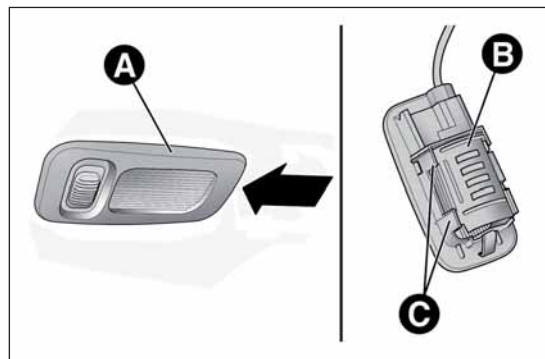

fig. 146
- lower the sun visor and remove courtesy light A fig. 146, applying leverage at the point indicated by the arrow;
- refit protection B fig. 146, inserting it correctly between tabs C;